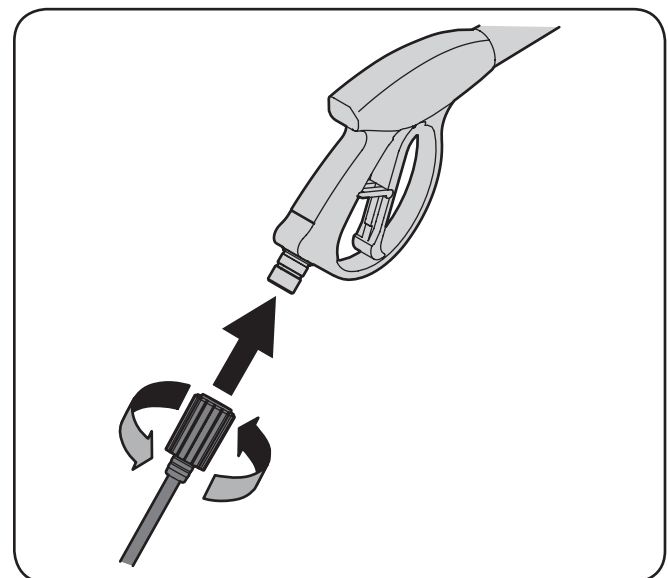

Figure 3-3
3. Connect high pressure hose to spray gun handle by threading the hose onto the spray gun as shown in Figure 3-3.